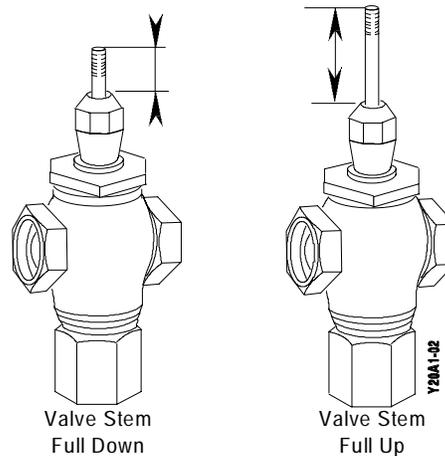

Figure 2: Stem Travel Measurement
1. Measure the valve stem length in the full down position as shown in Figure 2.
2. Measure the valve stem length in the full up position as shown in Figure 2.